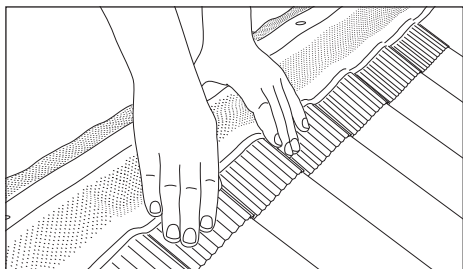

Fig. 6
- 6 Firmly press corrugations onto tiles on both sides along length of the ridge. With profiled tiles, it is best to adhere mastic to the top of profile either side of tile pan first, to ensure an even spread of corrugated strip across roof (Fig. 6).